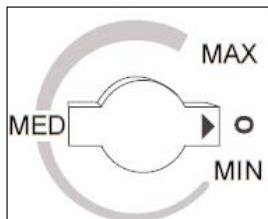

Fig. 2
- To turn off the wine cooler, (no cooling) rotate the control knob to the "0" (off) position. See Fig. 2.
- Turn the control to the "OFF" (0) position to temporarily disconnect the cooling cycle. When the wine cooler is not to be used for long periods of time, disconnect from power and leave the door partially open.